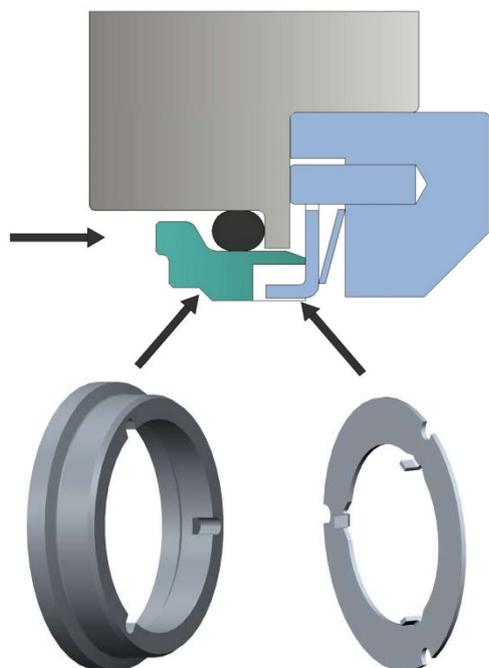

Figure 24 - Fitting stationary seat
- Fit the O-ring (83) to the static primary seal face and lubricate the bore in the rotor case with a suitable lubricant compatible with the pumped fluid and the elastomer.
- Align slots in the seal face with tabs of drive plate in the seal housing; a small cut-out is provided so one drive tab can be seen (Figure 24).